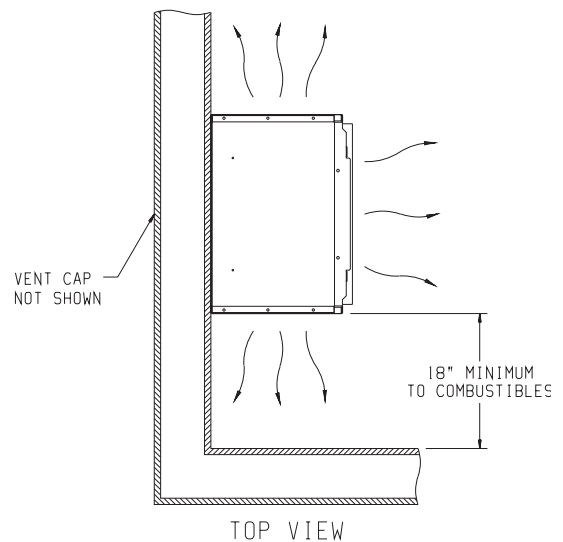

Figure 4
Side outlet register, SOR-1 may be installed on one or both sides of the furnace at the required clearances of 18 inches to adjacent wall or combustible material as shown in Figure 4.
Refer to Figure 4 for the location of the 7 1/2" diameter wall opening for the furnace. After the wall opening has been located and cut, position flue outlet on furnace in center of wall opening. When attaching furnace to the wall remove that portion of baseboard and molding on the wall which is behind the furnace. Attach furnace to wall, at the outer casing top, with (2) toggle bolts provided and to floor, at the outer casing bottom, with (2) #10 x 1 1/2" screws provided.